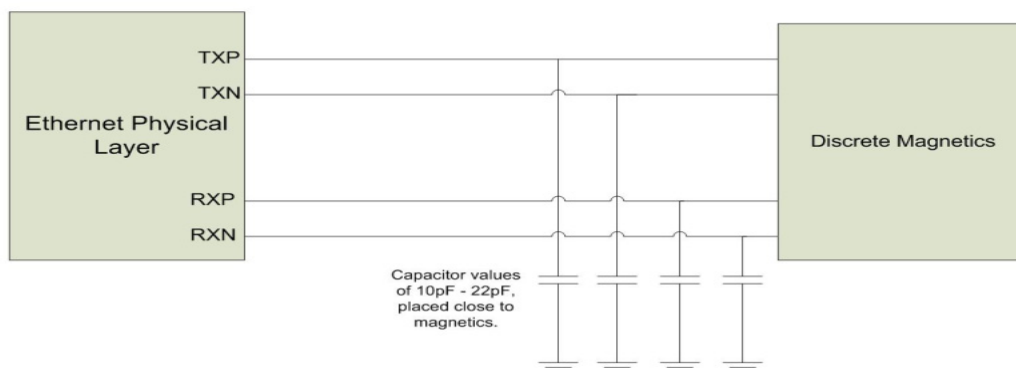

Figure 2.4 Common Mode Capacitors
- Common mode capacitors may be added to the TX+/- and RX+/- signals of the Ethernet PHY device for high frequency attenuation, as shown below in Figure 2.4. One end of each capacitor should be connected to the system ground plane, and placed within 10mm (approx. 400mils) of the magnetics. Typical capacitance values should be between 10pF and 22pF. Values higher than 22pF may negatively impact the TX and RX signalling.